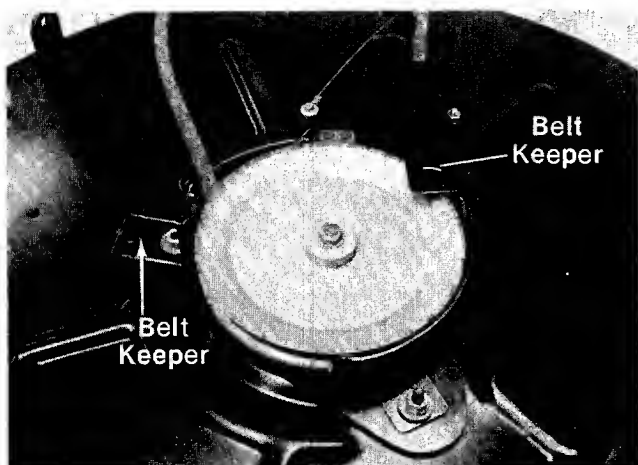

FIGURE 34.
12. Remove the two belt keepers on the deck. See figure 34.